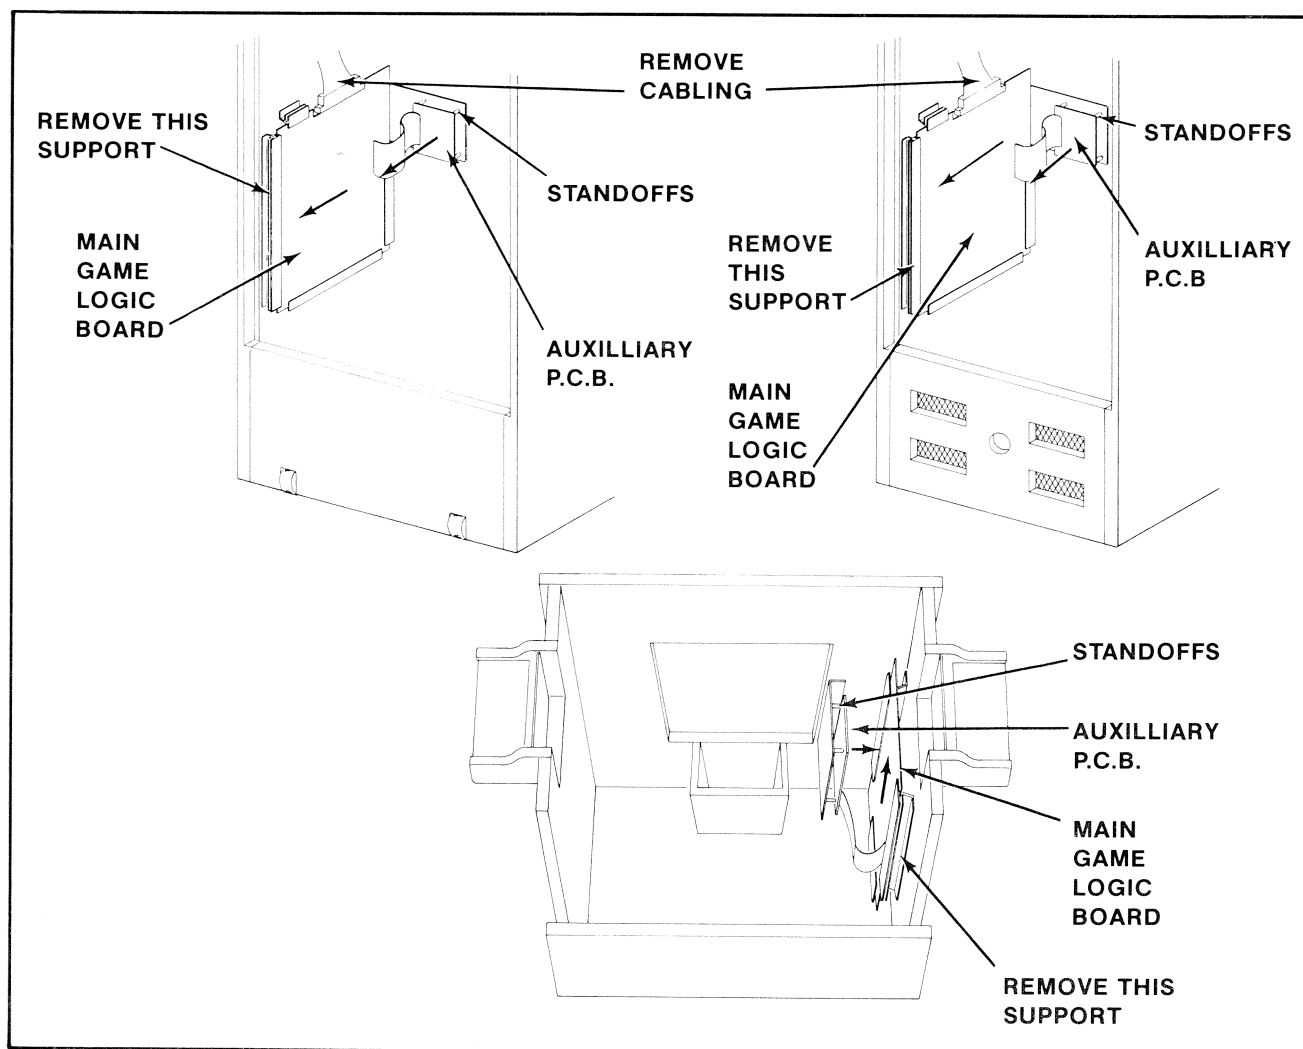

Figure 19 Removing printed circuit boards
1. UPRIGHT MODEL: See Figure 19.
- Remove the P.C.B. clamps indicated in Figure 19 and slide the Main Game Logic Board out the back of the cabinet.
2. MINI MODEL: See Figure 19.
3. COCKTAIL TABLE MODEL: See Figure 19.
- To remove the Main and Auxiliary Game Logic Boards. See Figure 19.
Remove the P.C.B. clamps indicated in Figure 19 and slide the Main Game Logic Board out of the cabinet.
CAREFULLY pop the Auxiliary Game Logic Board off its four snap-in mounting posts and lift it out of the cabinet. See Figure 19.